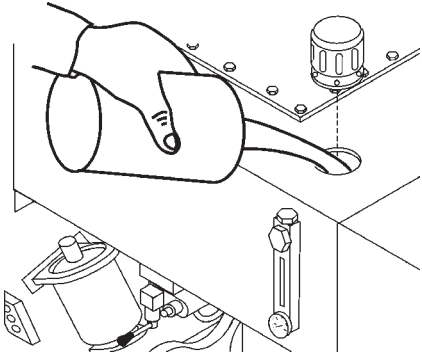

Figure 14. Hydraulic Oil Filler Hole
14. If the hydraulic oil level is low, remove the cap just above the oil level sight glass (Figure 14) and add the correct amount of hydraulic oil to bring the hydraulic oil level to a normal safe operating level. (Use Shell oil Tellus 68 or Mobil oil DFE26).